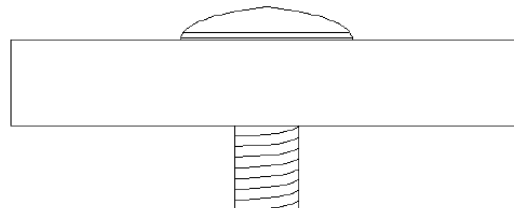

Figure 24 – Antenna Placement for Low Traffic Areas
- For maximum performance, Neptune recommends that pit antennas be installed above the lid as illustrated in Figure 24.